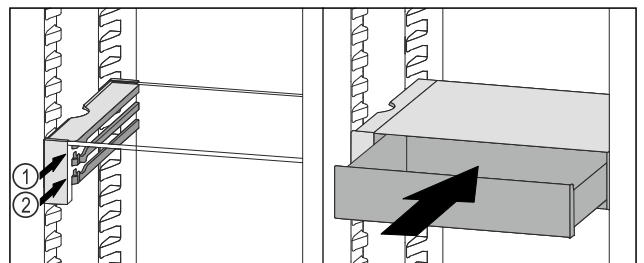

Fig. 95
- Place the VarioSafe drawer behind the stoppers on desired rib Fig. 95 (1) or Fig. 95 (2).